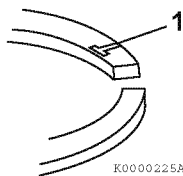

Figure 6-85
- Reinstall the top and second piston rings with the stamped “makers mark” (1, Figure 6-85) facing the top of the piston. The “makers mark” may vary in appearance but will always be located on the top surface of the piston ring adjacent to the piston ring gap. The oil ring and oil ring expander can be installed either side up.